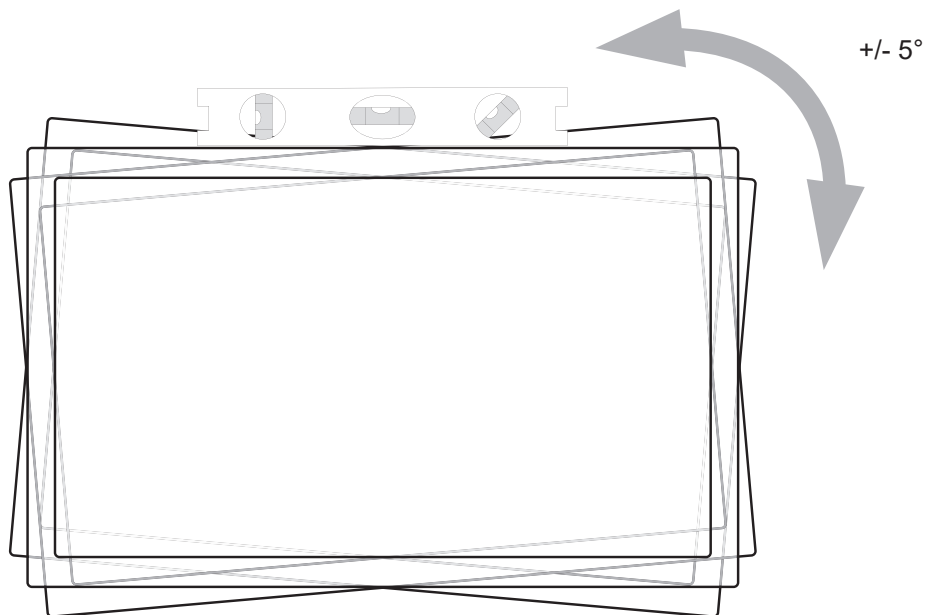

Figure 7
1. To adjust the horizontal angle of the display, first slightly loosen the bottom two hex nuts with provided socket wrench (N) on back side of the Mount Head. Then firmly hold opposite corners of the display and gently turn it into the desired position. When level, re-tighten hex nuts to lock in position (Figure 7).